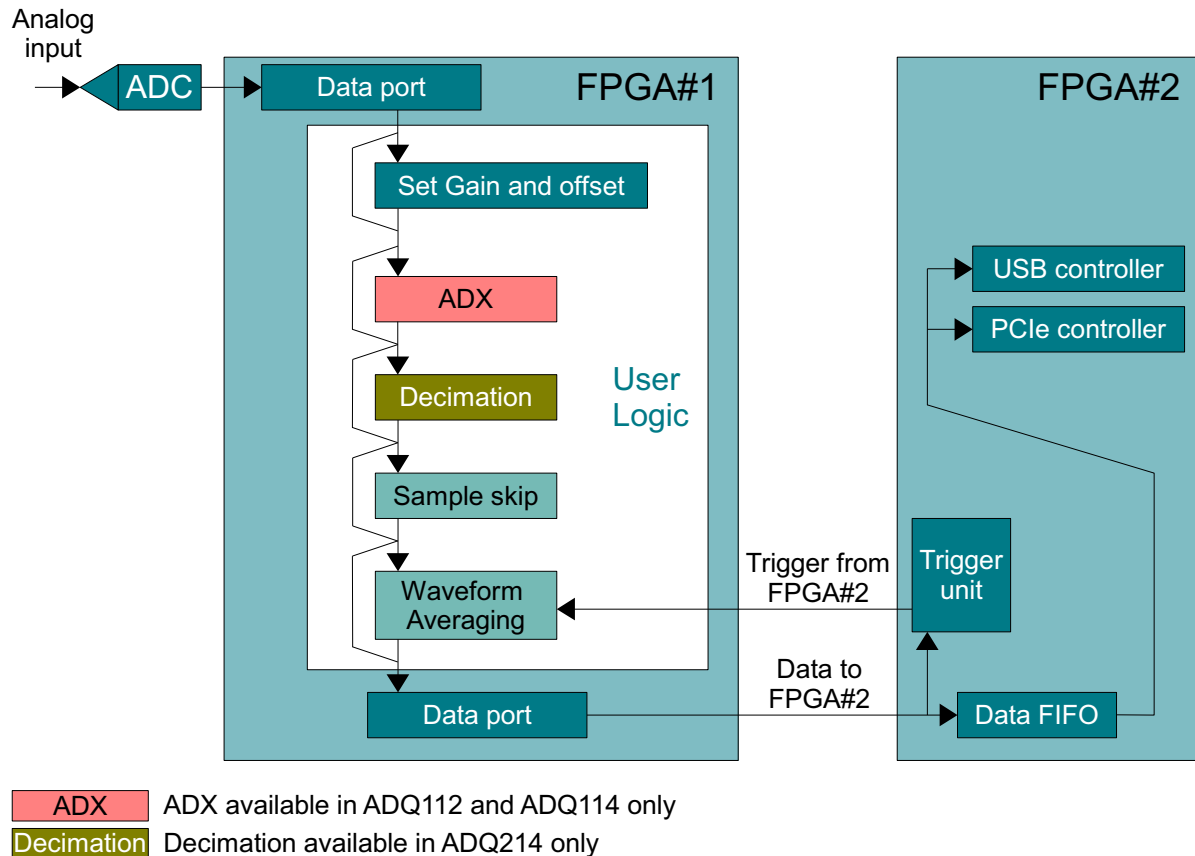

Figure 2: ADQ V5 digitizer family; FPGA#1 block diagram placing the WFA
Figure 2 shows the location of the Waveform Averaging block in the first FPGA of the ADQ V5 digitizer family. Default mode of the digitizer is to bypass the Waveform Averaging block. The second FPGA contains the host interface.
1. For ADQ V5, this is the link between FPGA#1 and FPGA#2, Figure 2.